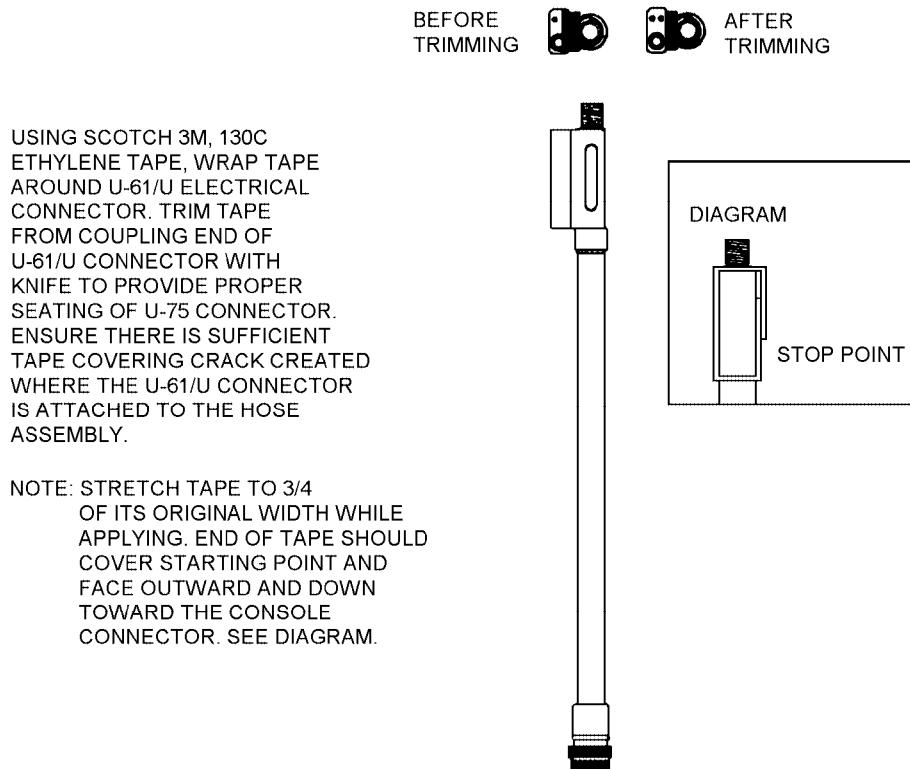

Figure 4-54. Modified Regulator to Seat Kit Hose Assembly Taping
a. Figures 4-54 to 4-57 provide instructions (that shall be followed) for (CBR hardening) taping of modified regulator to seat kit hoses (P/N 33C1189-1).